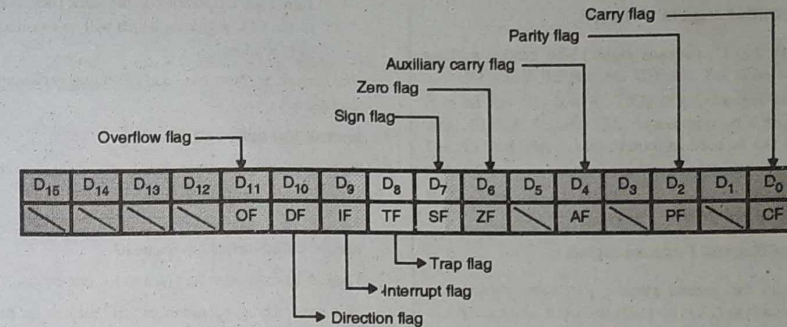

Fig. 1.4.5 : Flag register format
- Flag register in EU is of 16-bit and shown in Fig. 1.4.5.